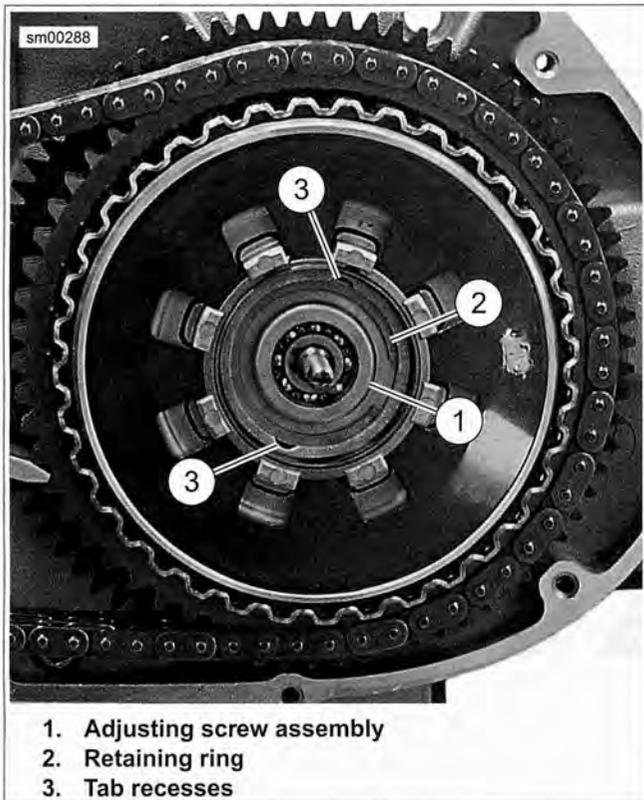

Figure 5-37. Clutch Adjusting Screw Assembly and Retaining Ring
7. See Figure 5-37. Install adjusting screw assembly in pressure plate, noting that two tabs on perimeter of release plate must be inserted into corresponding recesses in pressure plate. Secure assembly with a **new** retaining ring.